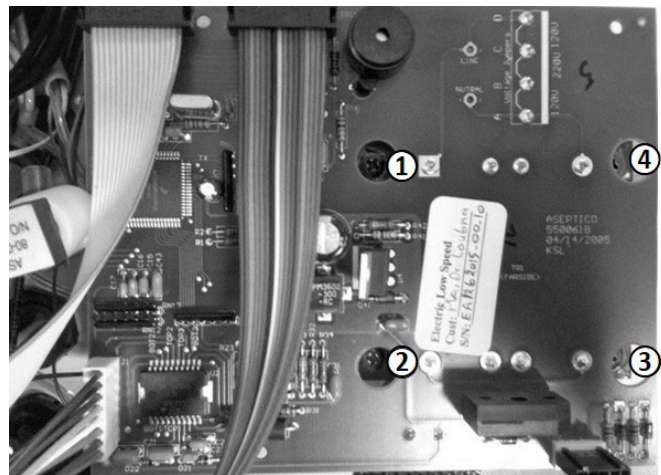

Fig. 7
- Remove the main circuit board by unscrewing four (4) mounting screws using a Phillips head screwdriver. Set aside. (Fig. 7)